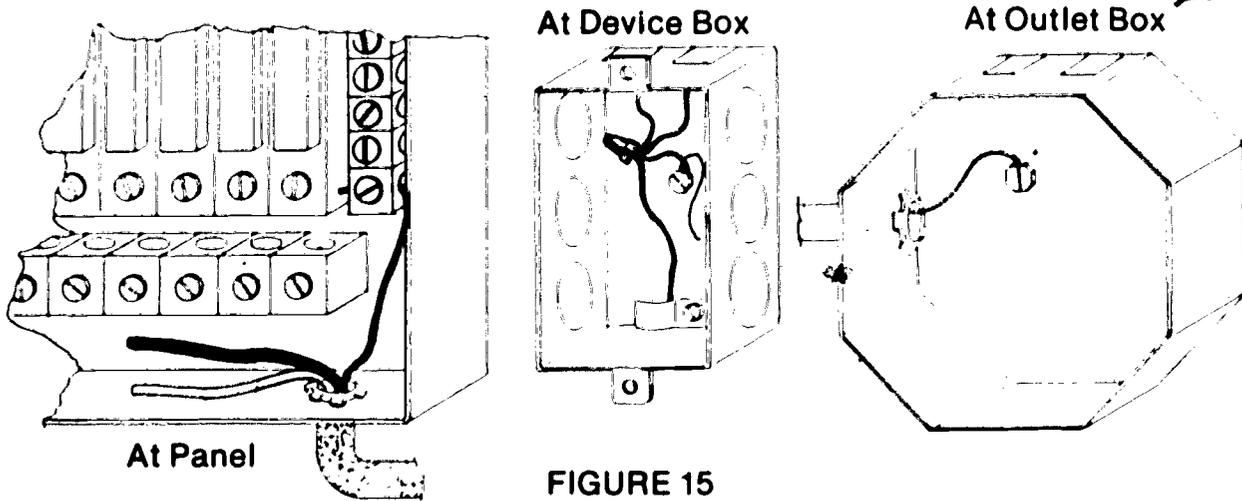

FIGURE 15
- K. Connect all grounding conductors (green or bare) (Figure 15)